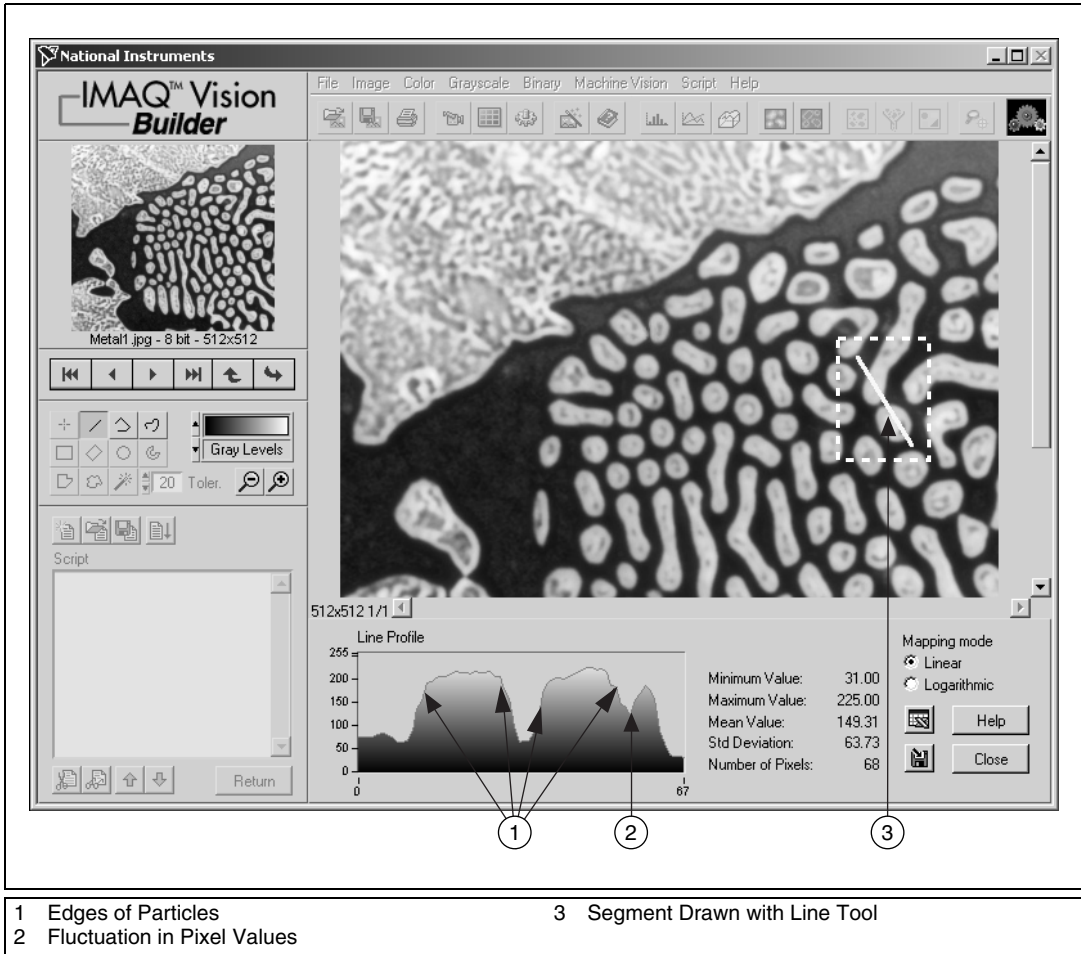

Figure 3-1. Using a Line Profile to Examine Edges
2. Draw a short segment across a particle, as shown in Figure 3-1.
In Figure 3-1, the areas labeled **1** represent the edges of the particles. Notice that the edges of both particles have a slope. The more shallow the slope, the greater variation you will have in detecting the exact location of the edge. As you change the threshold level in images with shallow-sloped particle edges, you could inadvertently change the shape or size of the particle. In the *Filtering the Image* section, you use the Convolution-Highlight Details filter under **Grayscale>Filters** to define the edges of the particles and increase the slope.